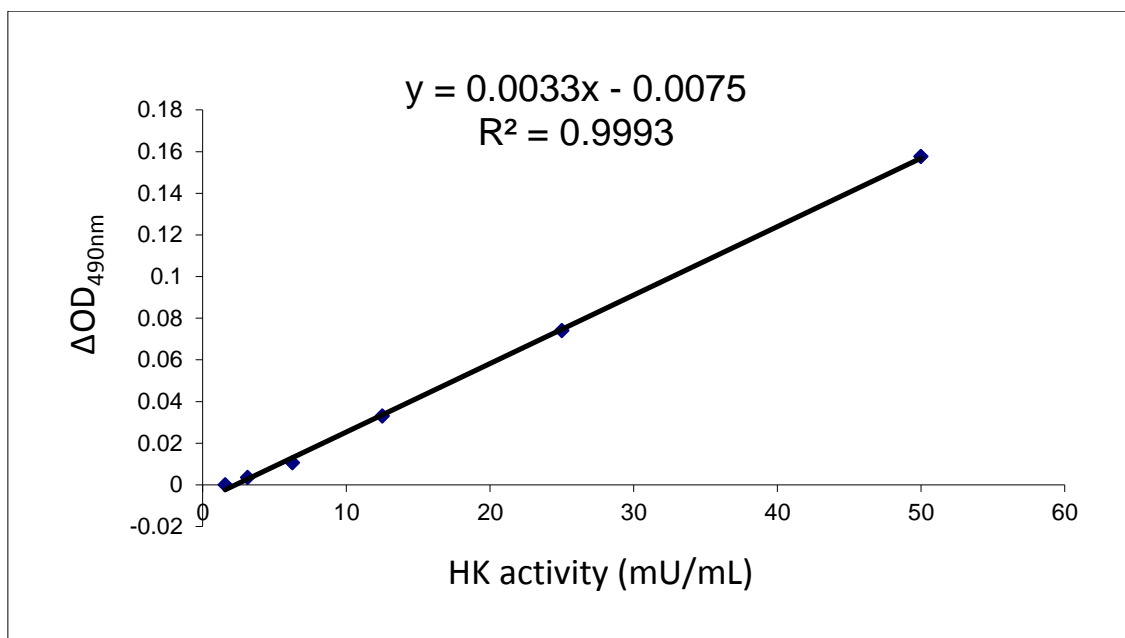

Figure 1. A typical HK standard curve measured by ScienCell™ Hexokinase Assay kit
Data from hexokinase assay of HK solutions with concentrations ranging from 0.8 to 50 mU/mL show a linear relationship between OD_{490nm} and HK activity (Figure 1).
2. Based on the calibrated ΔOD_{490nm} of the HK standard, make a standard curve by plotting ΔOD_{490nm} as a function of HK activity (See Figure 1 for a typical standard curve). Determine the equation and R^2 value of the trend line.